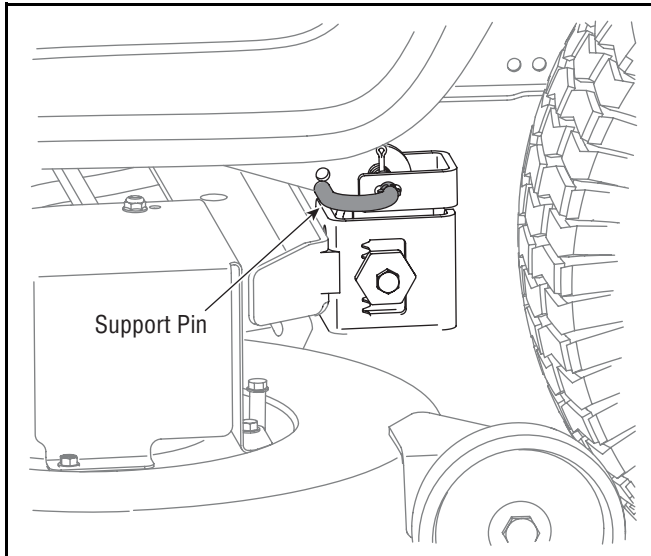

Figure 25
7. Pull the deck support pin outward to release the deck from the deck lift arm. See Figure 25.